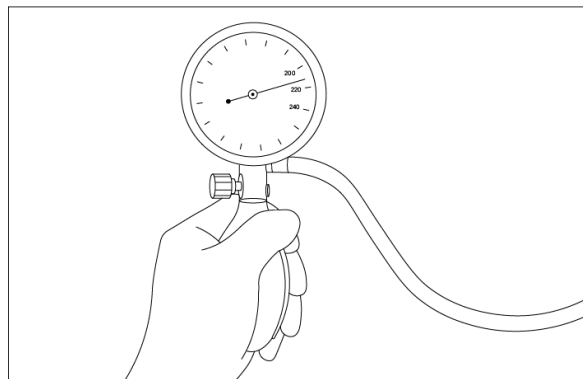

Fig. 7.6
1. Check for seams, scratches, cracks, debris, and other damage (as shown in Fig. 7.6).
2. Press the bladder to confirm that the leak detector discharges air from the joint (as shown in Fig. 7.6).